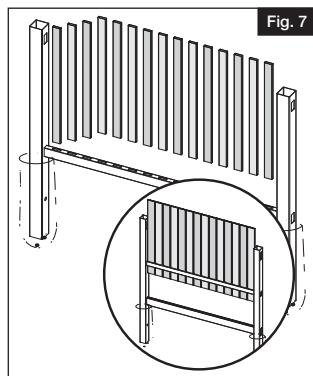

Fig. 7
- b. Starting from the left side, insert pickets/boards down into the bottom rail (Fig. 7).